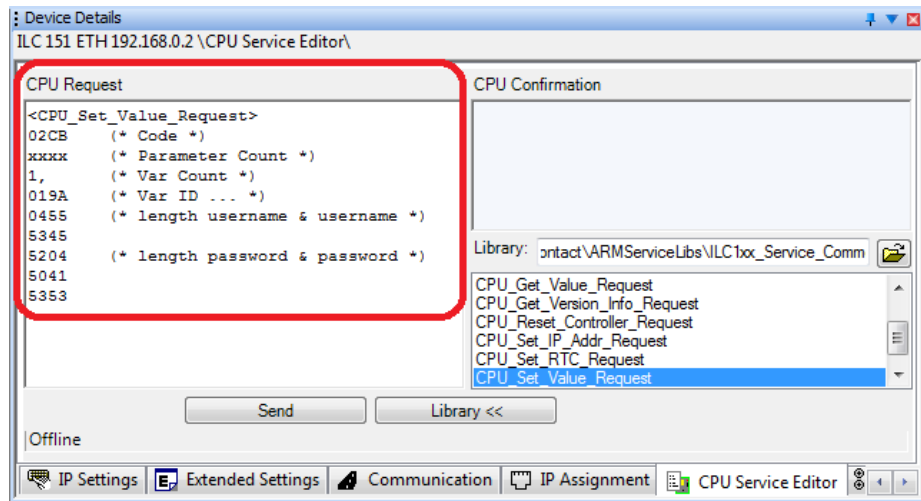

Figure 3-28 Specifying username and password for FTP access
- In the “CPU Request” area for (* Value ... *) (changed to (* length username & username *) and (* length password & password *) in Figure 3-28) enter the desired username and password.
Example (refer to Figure 3-28): username “USER” (length “04”), password “PASS” (length “04”)
Figure 3-28 shows the settings for defining the username “USER” and the password “PASS” in the “CPU Request” area.